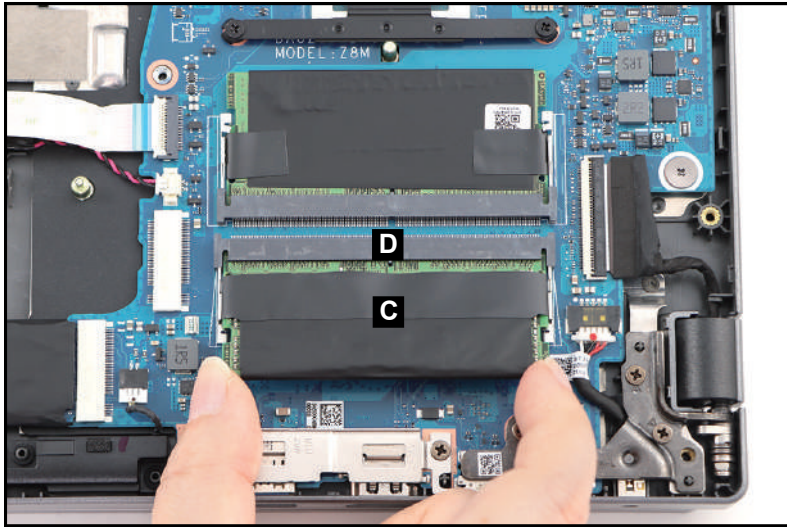

Figure 3-146. Replacing the DIMM Module
5. Connect the DIMM module (C) to the mainboard connector (D) (Figure 3-146).